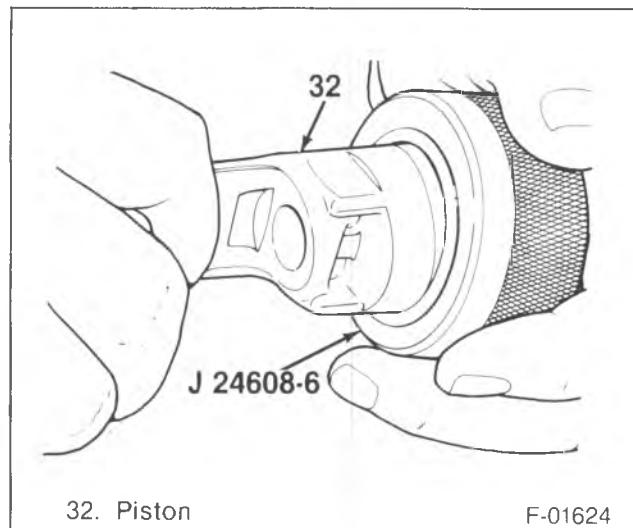

Figure 38—Sizing the Piston Ring
- J 24608-5 (installer) will keep the J 24608-2 (guide) inside when the piston ring is installed on the piston (32).
- Remove the guide from the installer and do not store the guide in the installer because the seal will be stretched and weakened during storage. This can cause the seal not to hold the ring installer segments tight enough to the J 24608-2 (guide) when installing the piston ring (33) to the piston (32).
4. Piston (32) to J 24608-6 (figure 38).
- Lubricate the piston ring (33) area with 525 viscosity refrigerant oil.
- Rotate the piston (32) and ring (33) into J 24608-6 at a slight angle until the piston is inserted against the center stop of J 23608-6.